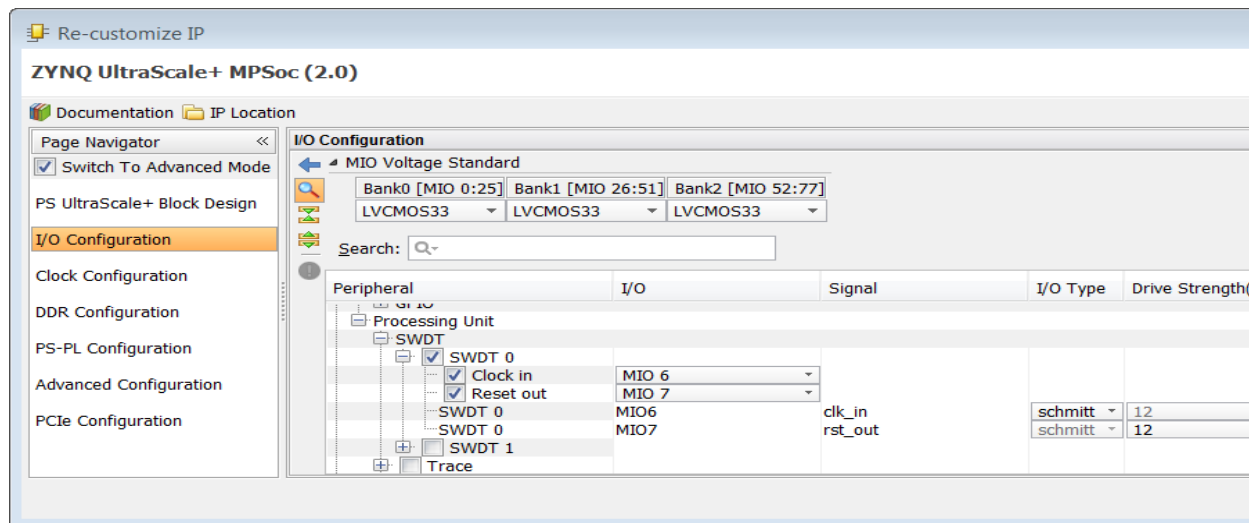

Figure 3-17: Configuring Processing Unit SWDT Pins
The PU SWDT can be used to reset the APU or the FPD. The RPU SWDT can be used to reset the RPU or the processing system (PS). These timers can be enabled as shown in Figure 3-17 below.